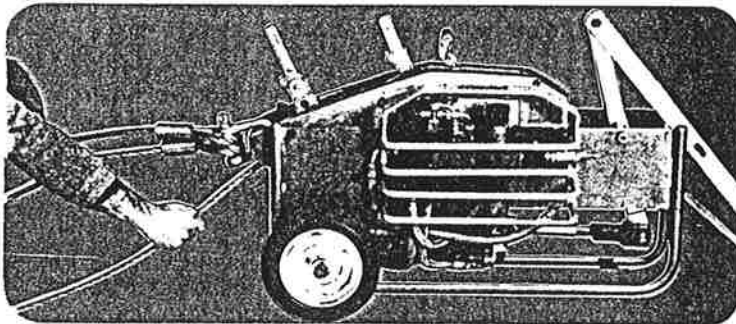

Fig.5
4.5. - Fig. 5 : pull the slack wire rope by gloved hand to the required position and make sure there are no obstructions which could interfere with the wire rope travel.